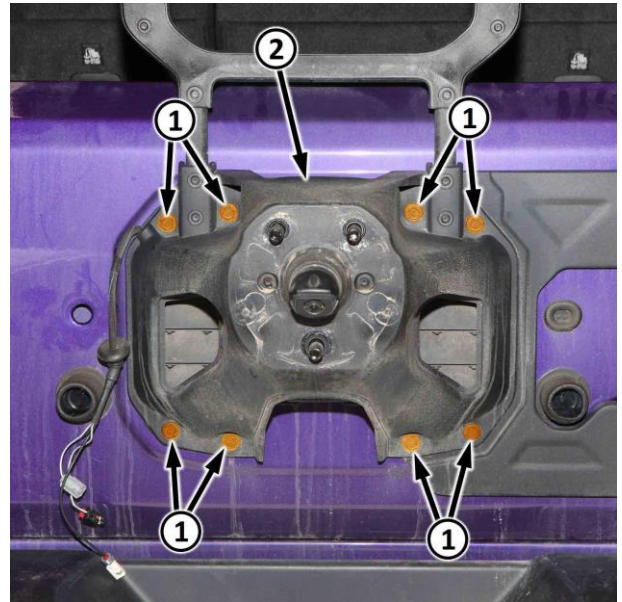

Figure 9 – Tire Carrier Fasteners
15. Remove the eight fasteners (1) that secure the spare tire carrier (2) to the vehicle (Figure 9).
20. Position the tire carrier (2) to the vehicle, then install the fasteners (1) and tighten the fasteners to 18 N·m (13 Ft. Lbs.) (Figure 9).